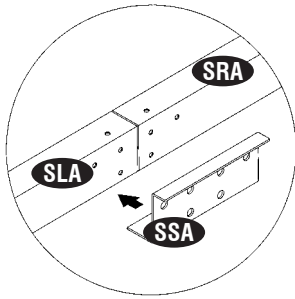

Fig.1
11. Place the sliding channel support (SSA) in between the sliding Channels (SLA) & (SRA). Align the holes with sliding channel and secure with (S1) screws. See fig. 1 & 2.